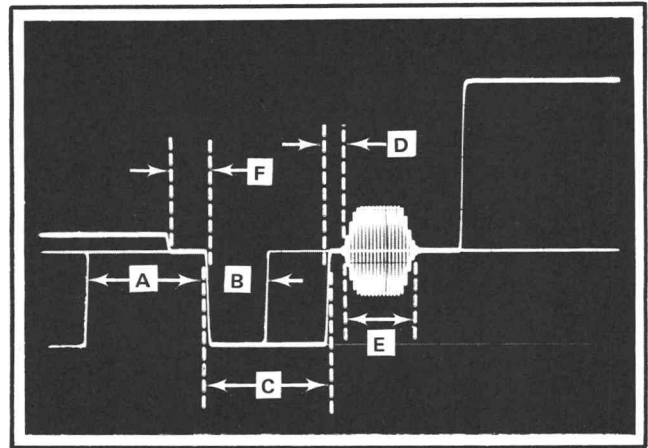

Fig. 5-3. Typical test oscilloscope display of the blanking interval.
a. Using Fig. 5-3 as a guide, CHECK the timing as listed in Table 5-4.